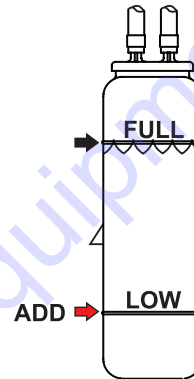

Figure 35. Coolant Recovery Tank
- Verify that the coolant level in the coolant recovery tank is between the **FULL** and **LOW** markings as shown in Figure 35.